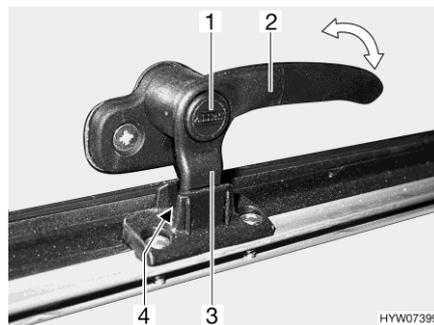
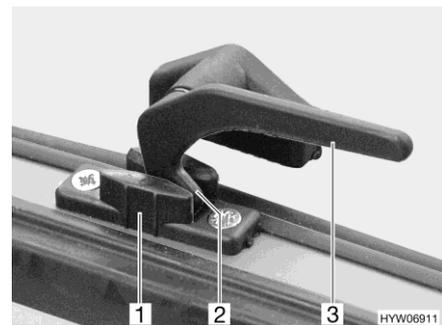

Fig. 101 Catch lever with safety knob in "continuous ventilation" position
Fig. 102 Catch lever in "continuous ventilation" position
- "Continuous ventilation" (Fig. 101 and Fig. 102)
- Press and hold the security button (Fig. 101,1), if present.
- Turn the catch lever (Fig. 101,2 or Fig. 102,3) a quarter turn towards the centre of the window.
- Return the catch lever to its initial position. Move the locking catch (Fig. 101,3 or Fig. 102,2) on the catch lever into the recess of the window catch (Fig. 101,4 or Fig. 102,1).